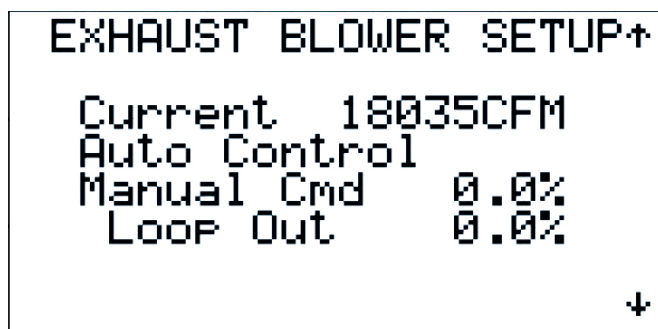

Figure 35
2.3.2.1.3 Exhaust Blower Setup (Figure 35)
Selecting the EXHAUST BLOWER SETUP from the Commissioning Menu displays the screen shown in Figure 35. This screen displays the current CFM of the Supply Blowers. The speed of the blower can be placed in manual control from this screen and a manual speed set for troubleshooting.